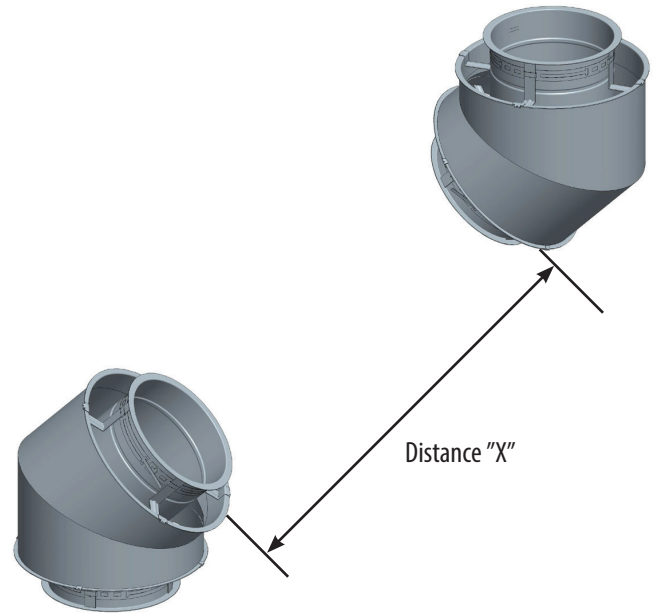

Figure 13-Step 1 for Installation of Variable length
Step 1 - Measure the distance X required for the variable length. See Figure 13.